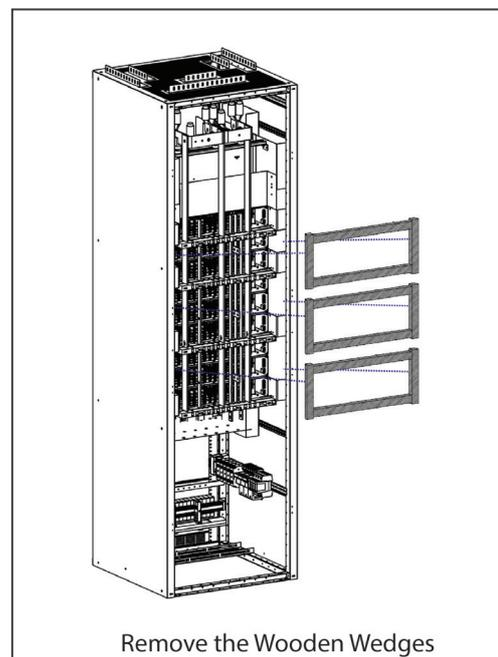

Figure 6. Remove the wedges
3. Cut the tie wrap of the back wedges and remove them (Refer Figure 6).